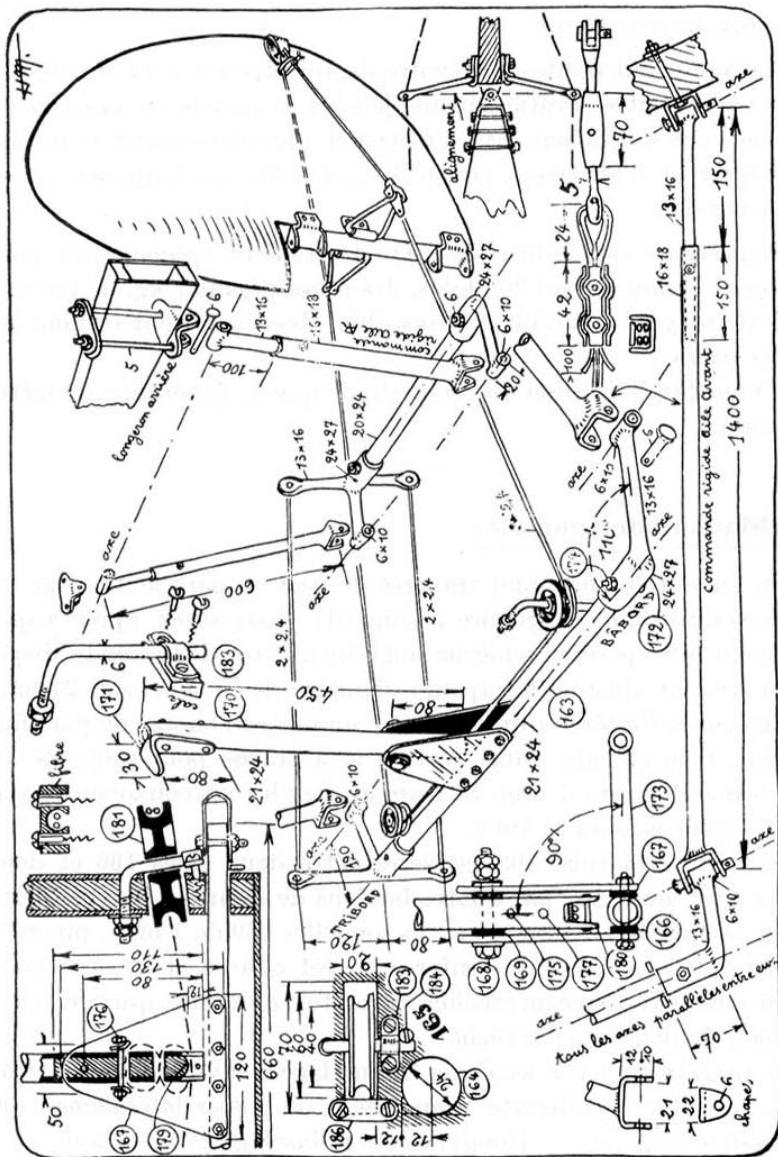

Figure 3.23: Layout of control system
A tube (163) (fig. 3.23) passes straight through the fuselage below the rectangular hole 26 (Fig. 51⁴). You will have to